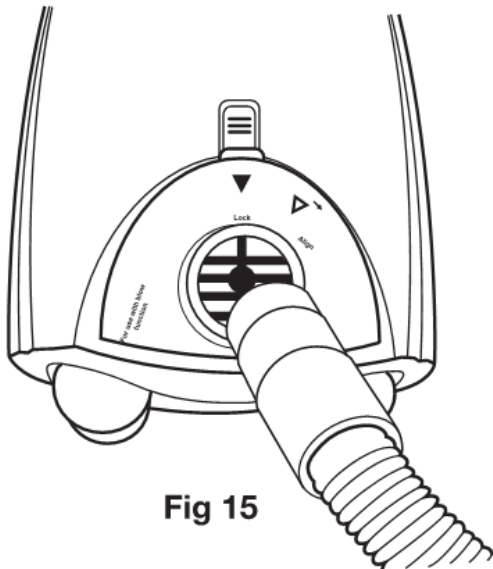

Fig 15
4. To attach the hose to the blower port, align the flexible hose and turn clockwise until it stops. The hose is now securely in place (Fig.15).